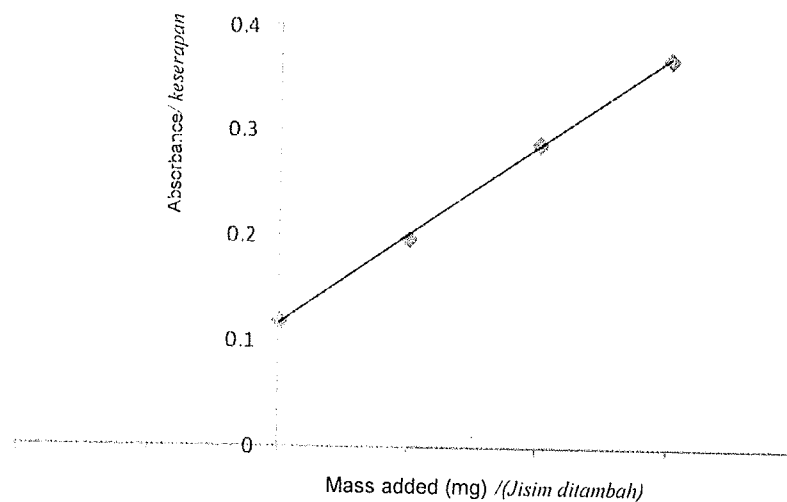

Figure 1: Standard addition calibration curve
6. 25 ml aliquots of sample are pipetted into four beakers, and 0, 100, 200 and 300 μL of 500 mg/L standard solution added. The absorbances were measured, and a graph prepared as shown in Figure 1. The absorbance of the sample was found to be 0.118.
- [c] Estimate the mass of analyte in the analysed sample from the graph in Figure 1.